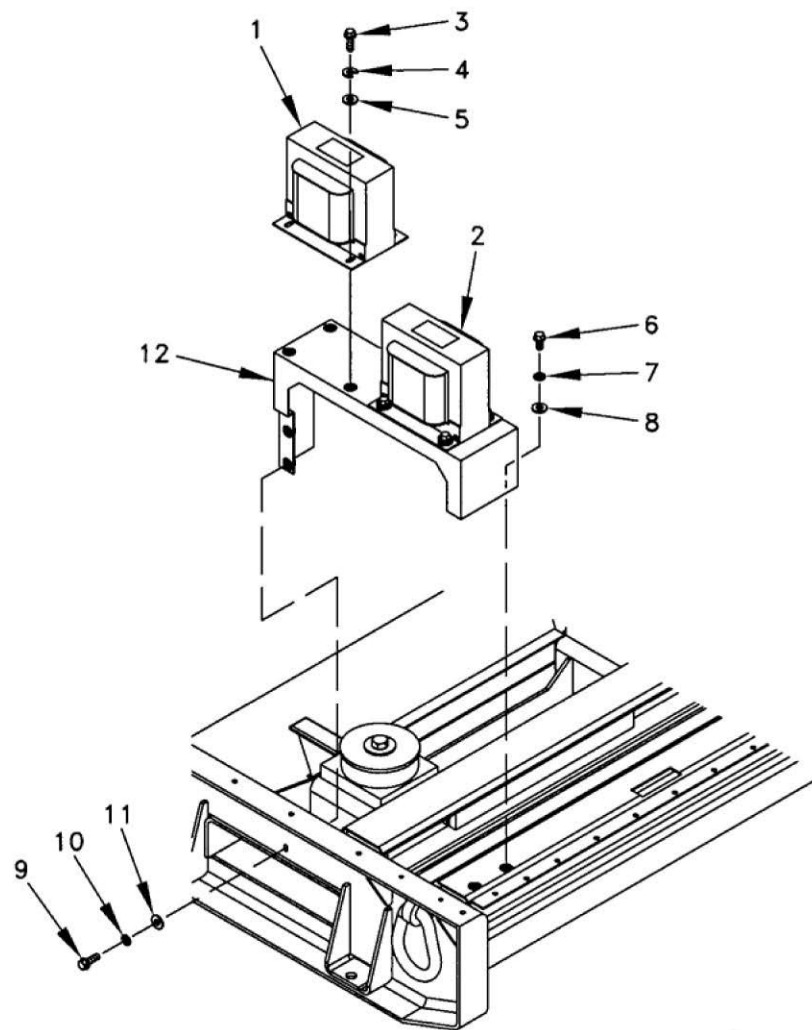

Figure 1. Potential Transformer.
2. Tag and disconnect wire harness from potential transformer PT3 (Figure 1, Item 1) and PT2 (Figure 1, Item 2).
3. Remove four screws (Figure 1, Item 3), washers (Figure 1, Item 5), lock washers (Figure 1, Item 4), and transformer PT3 (Figure 1, Item 1). Repeat for transformer PT2 (Figure 1, Item 2).
4. If removing bracket, remove two screws (Figure 1, Item 6), lock washers (Figure 1, Item 7), and washers (Figure 1, Item 8).
5. If removing bracket, remove two screws (Figure 1, Item 9), lock washers (Figure 1, Item 10), washers (Figure 1, Item 11), and potential transformers bracket (Figure 1, Item 12).
1. If bracket was removed, install potential transformer bracket (Figure 1, Item 12), washers (Figure 1, Item 11), lock washer (Figure 1, Item 10), and two screws (Figure 1, Item 9).
2. If bracket was removed, install two washers (Figure 1, Item 8), lock washer (Figure 1, Item 7), and screws (Figure 1, Item 6).
3. Install potential transformer PT2 (Figure 1, Item 2), four washers (Figure 1, Item 5), lock washers (Figure 1, Item 4), and screws (Figure 1, Item 3). Repeat for potential transformer PT3 (Figure 1, Item 1).
4. Remove tags and connect wire harness to potential transformers PT2 (Figure 1, Item 2) and PT3 (Figure 1, Item 1).